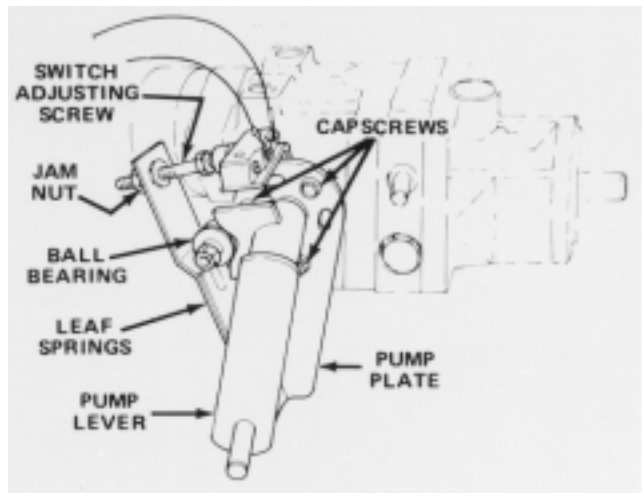

Figure 41
1. Park vehicle on a level surface and turn engine off. Apply the parking brake, tip seat forward, and actuate pump lever (Fig. 41) to insure assembly is properly seated and operating freely. Correct any discrepancy.
6. Because the wheel is rotating, the pump plate must be adjusted. But before adjusting the pump plate, move throttle to SLOW. If wheel is rotating forward, loosen capscrews, and lightly tap bottom of pump plate counterclockwise (Fig. 41). By contrast, tap pump plate clockwise if wheel is rotating backward (Fig. 41). When wheel stops rotating, tighten capscrews holding pump plate against side of transmission. Verify the adjustment with throttle in SLOW and FAST position.
- A. Ball bearing is loose or worn out (Fig. 41).
- F. Weak or damaged leaf springs (Fig. 41). Replace.
2. Actuate the pump lever (Fig. 41) to insure all parts are operating freely and seated properly.
3. Loosen jam nut. Rotate switch adjusting screw (Fig. 41) until there is a gap between head of screw and switch button.